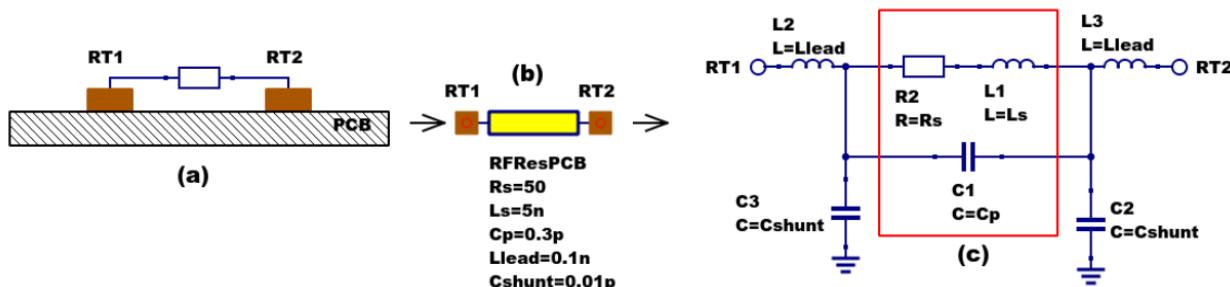

Figure 2 - PCB mounted resistor: (a) axial component mounting, (b) Qucs symbol and (c) equivalent circuit model.
The schematic symbol, I/V equation and parameters of the Qucs linear resistor model are shown in Figure 1. In contrast to this model Figure 2 illustrates the structure of a printed circuit board (PCB) mounted metal film (MF) axial RF resistor (a), its Qucs schematic symbol (b) and its equivalent circuit model (c). A thin film surface mounted (SMD) resistor can also be represented by the model shown in Figure 2 (c).
At signal frequencies where the largest dimension of an axial or SMD resistor is less than approximately 20 times the smallest signal wavelength a resistor can be modelled by a lumped passive circuit consisting of a resistor **Rs** in series with a small inductance **Ls** with the combination shunted by parasitic capacitor **Cp**. In Figure 2 **Rs** is the nominal value of resistor at its parameter extraction temperature **Tnom**, **Ls** represents the inductance associated with **Rs** where the value of **Ls** is largely determined by the trimming method employed during component manufacture to set the value of **Rs** to a specified tolerance. Similarly, capacitor **Cp** models a parasitic capacitance associated with **Rs** where the value of **Cp** is a function of the physical size of **Rs**. At RF frequencies it is important, for accurate operation, to add lead parasitic elements to the intrinsic equivalent circuit model shown within the red box draw in Figure 2. In Figure 2 **Llead** and **Cshunt** represent resistor series lead inductance and shunt capacitance to ground respectively.
A typical set of model parameters for a 51Ω 5 % MF axial resistor are (1) **Ls = 8nH**, **Cp = 1pF**, **Llead = 1nH** and **Cshunt = 0.1pF**. Illustrated in Figure 3 is a basic S parameter test bench circuit for measuring the S parameters of an RF resistor over a frequency range 1 MHz to 1.3 GHz. This example also demonstrates how the real and imaginary parts of a resistor model impedance can be extracted from S parameter simulation data. The graphs in Figure 3 clearly demonstrate that the impedance of the typical MF RF resistor described in previous text and modelled by the equivalent circuit shown in Figure 2 is a strong function of frequency at higher frequencies in the band 1 MHz to 1.3 GHZ.
Figure 8 - Qucs device model parameter extraction system applied to a nominal $47\ \Omega$ resistor represented by the subcircuit model illustrated in Figure 2 (c). Fixed model parameter values: $R_s = R_m = 47.3\ \Omega$, $C_{shunt} = 0.08\text{pF}$; Optimised values: $L_s = L = 10.43\text{nH}$, $L_{lead} = LL = 1.47\text{nH}$, $C_p = C = 0.69\text{pF}$. To reduce simulation time the ASCO cost variance was set to $1e-3$. The ASCO method was set to DE/best/1/exp.
Figure 10 - Qucs simulation of nominal 47Ω resistor based on theoretical analysis.Figure 11 - Qucs device model parameter extraction system applied to a nominal 1000Ω resistor represented by the subcircuit model illustrated in Figure 2(c).
Figure 13 - Qucs device model parameter extraction system applied to a nominal $100\ \Omega$ SMD resistor represented by the subcircuit model illustrated in Figure 2 (c).
Listed below is an example Verilog-A code model for the RF resistor model introduced in Figure 2 (c). Due to the limitations of the Verilog-A language subset provided by version 2.3.4 of the "Analogue Device Model Synthesizer" (ADMS)⁴ inductors **Ls** and **Llead** are modelled by gyrators and capacitors with values identical to **Ls** or **Llead**.